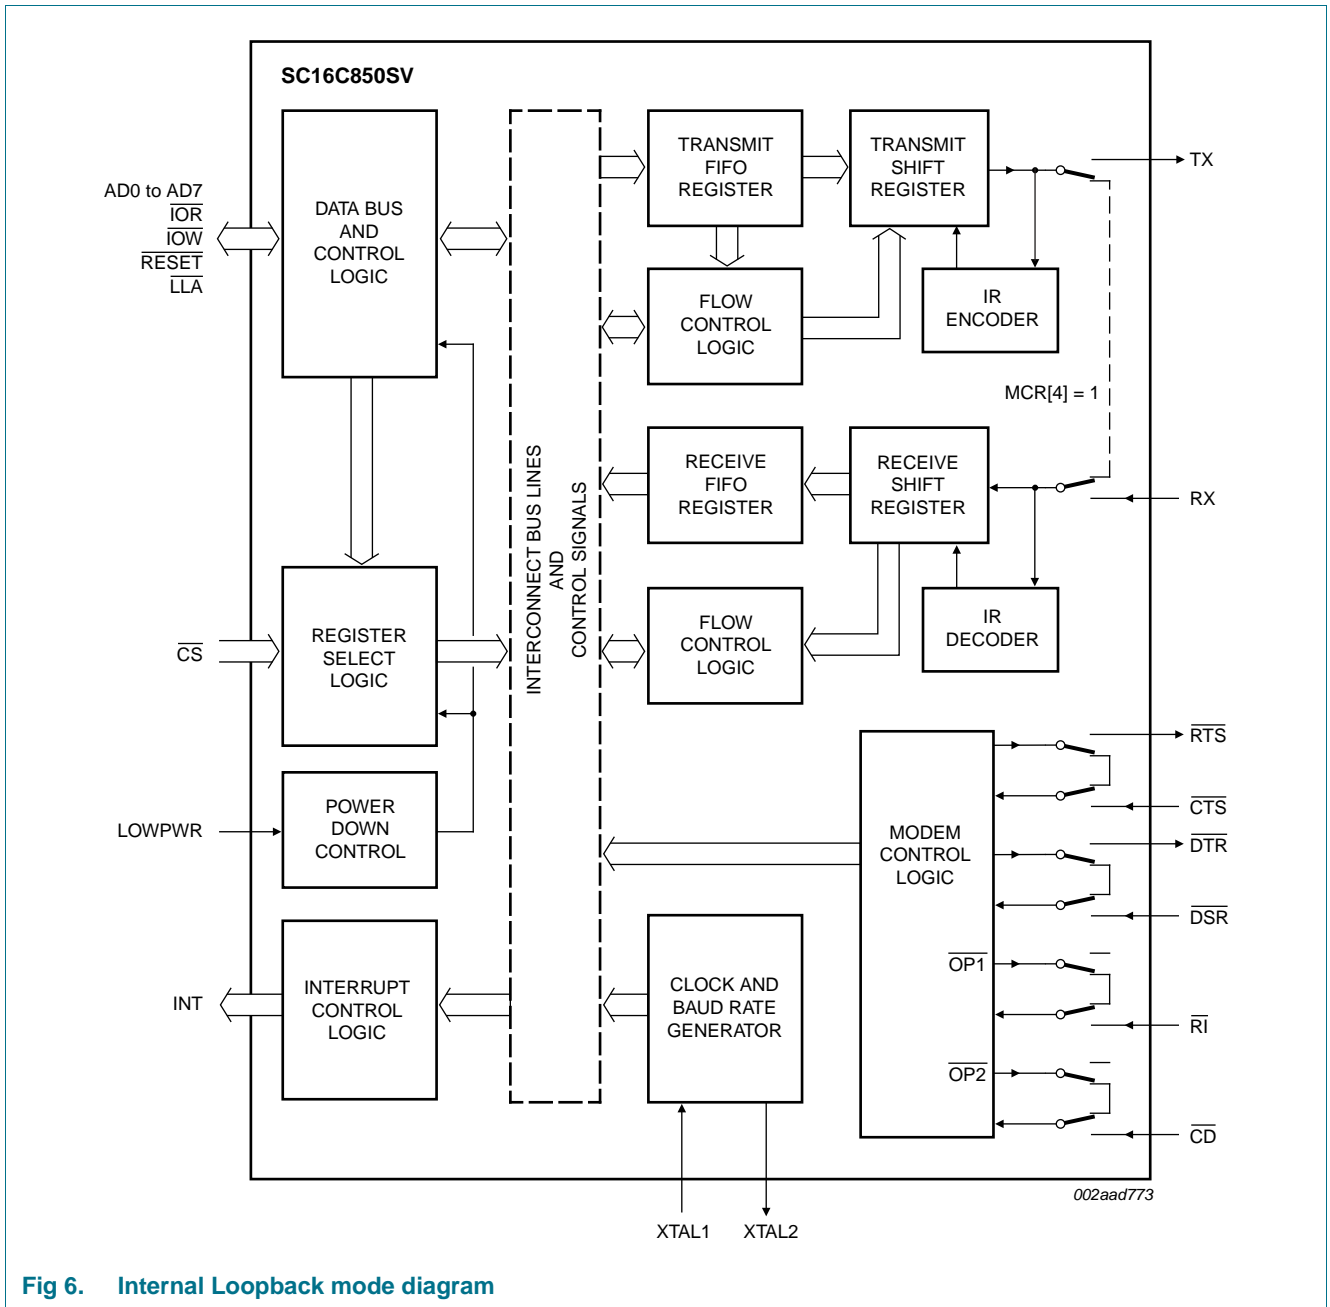

Fig 6. Internal Loopback mode diagram
The internal loopback capability allows on-board diagnostics. In the Loopback mode, the normal modem interface pins are disconnected and reconfigured for loopback internally (see Figure 6). MCR[3:0] register bits are used for controlling loopback diagnostic testing. In the Loopback mode, the transmitter output (TX) and the receiver input (RX) are disconnected from their associated interface pins, and instead are connected together internally. The \overline{CTS} , \overline{DSR} , \overline{CD} , and \overline{RI} are disconnected from their normal modem control inputs pins, and instead are connected internally to \overline{RTS} , \overline{DTR} , MCR[3] ($\overline{OP2}$) and MCR[2] ($\overline{OP1}$). Loopback test data is entered into the transmit holding register via the user data bus interface, AD[7:0]. The transmit UART serializes the data and passes the serial data to the receive UART via the internal loopback connection. The receive UART converts the serial data back into parallel data that is then made available at the user data interface AD[7:0]. The user optionally compares the received data to the initial transmitted data for verifying error-free operation of the UART TX/RX circuits.